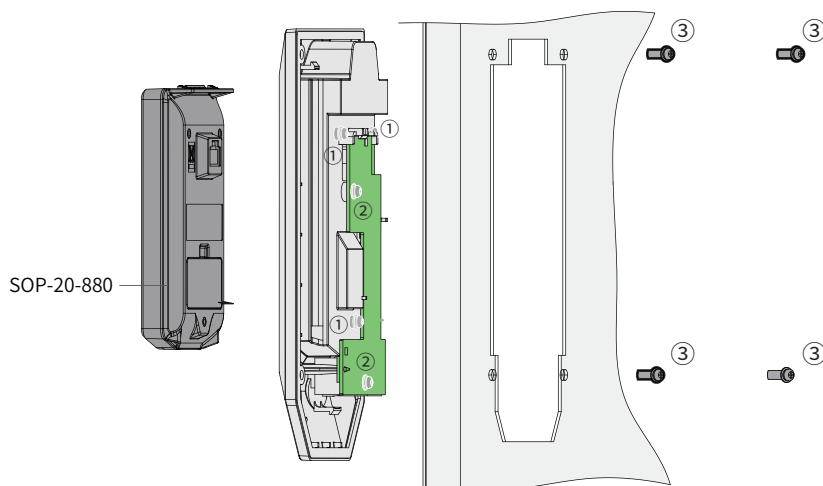

Figure 3-2 Installing base to the door plate
When the SOP-20-880 is installed to the cabinet door, secure the base of SOP-20-880 to the cabinet door with the four screws ③ shown in Figure 3-2. Then install SOP-20-880 to the base based on section “3.1 Installing SOP-20-880 to the cover of HCU” .
As shown in Figure 3-2, ① represents screws used to fix SOP-20-880, which must be used with IP54 protection. ② represents screws used to fix the PCB, with the grounding function provided. ③ represents screws used to fix the base to the cabinet door.